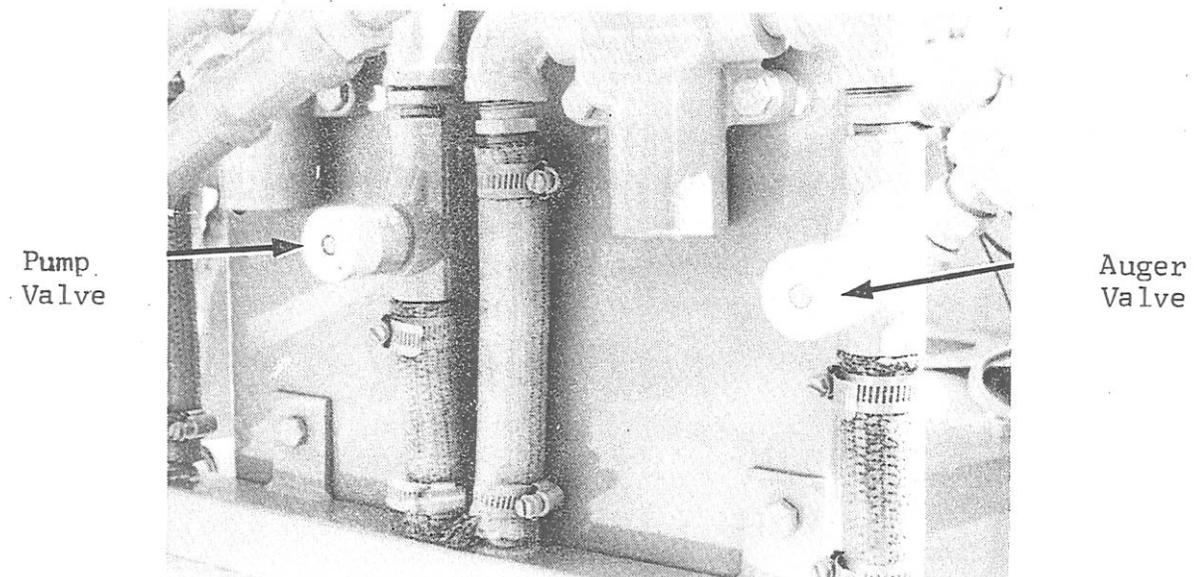

Figure 11 - Flow Control Valves
- d. Hydraulic flow control valves have been added to increase the flexibility of the BC-220. See Figure 11. Counter clockwise rotation of the valves decreases hydraulic pressure. Consequently the speeds of the material pump and auger may be varied. For best results keep both flow control valves turned in clockwise, unless it is necessary to independently slow pump or auger speed. To slow both pump and auger speed reduce the speed of the engine.